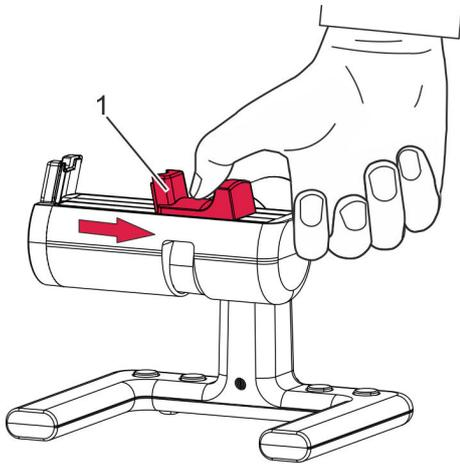

Fig. 13: Tightening the clamping jaws
1. ➤ Pull the clamping jaw (Fig. 13/1) outwards and hold it.